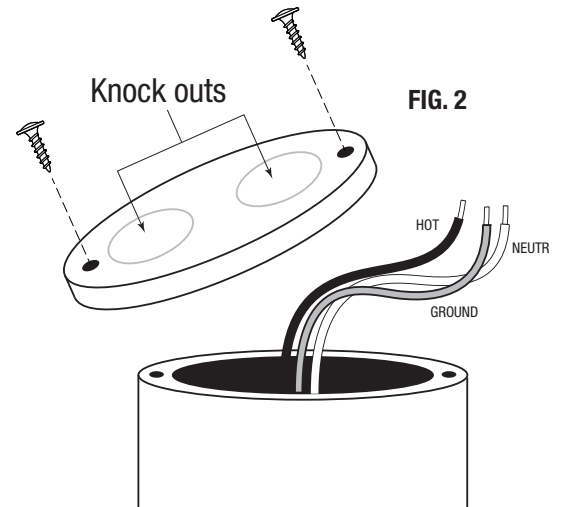
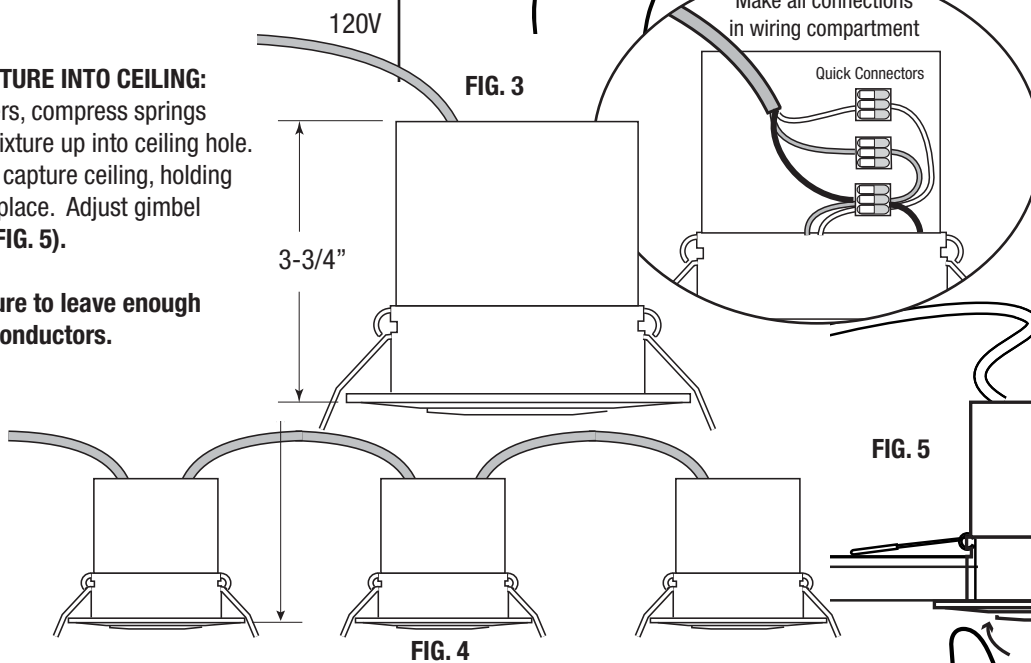

FIG. 2
FIG. 3
**2. CONNECTING FIXTURE TO POWER.** Remove cylindrical hood screws from back of fixture (FIG. 2). Feed 120V power through top knock-out using properly listed conductors and cord grommets or conduit connectors (by others) (FIG. 3). When linking multiple fixtures see (FIG. 4). Connect 120V power leads to fixture using the quick connect connectors. Securely re-attach cylindrical hood. Test all connections.